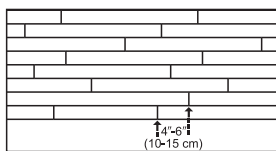

Figure 17
- Check for a tight fit between all edges and ends of each plank. End-joints of adjacent rows should be staggered 4”-6” (10-15 cm) when possible, to ensure a more favorable overall appearance (Figure 17).